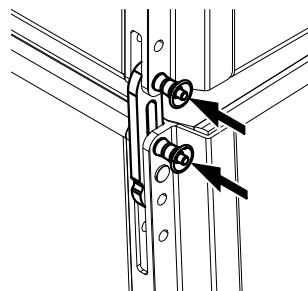

Fig. 3: SUB to SUB, 2.5° splay, free
- c. SUB to SUB with 2.5° splay (free ⇒ Fig. 3) between the cabinets.